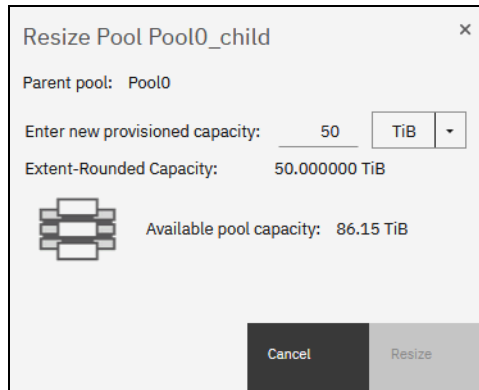

Figure 5-24 Resizing a child pool
2. Select **Resize** to increase or decrease the capacity of the child storage pool type `child_thick`, as shown in Figure 5-24 on page 255. Enter the new pool capacity and click **Resize**.